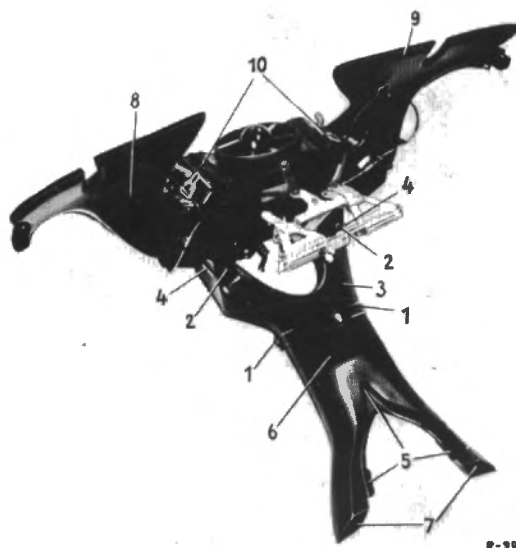

Fig. 83-1/1
3. Screw out the oval head tapping screws (1) and the hexagon screws (2) on the connecting duct (3) (Fig. 83-1/1).
4. Remove the connecting duct (3) together with the seals (4) from the left defroster nozzle (8) and the right defroster nozzle (9) (Fig. 83-1/1).